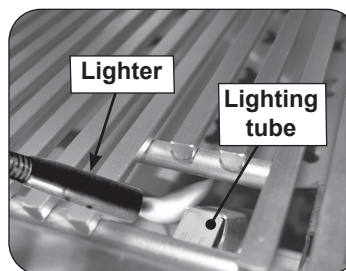
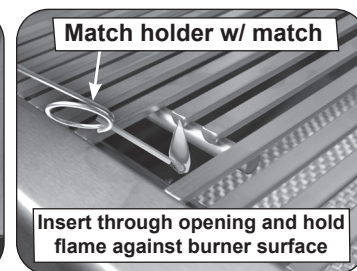

Fig. 35-2 Manual lighting via lighting tube
Fig. 35-3 Manual lighting via match holder
2. Insert either a burning long-barrel butane lighter or a burning long-stem match through the cooking grid opening to the top of the lighting tube (see Fig. 35-2). For backburners or infrared burners, hold the flame against the surface of the backburner/infrared burner. Grills equipped with an infrared burner include a wire extension match holder (attached to drip tray) to assist with manual lighting (see Fig. 35-3).
4. If the burner does not light within five (5) seconds of turning the control knob, **immediately depress the knob and turn the valve to OFF**. **WAIT FIVE (5) MINUTES** before repeating steps 2 through 4 of the **MANUAL LIGHTING** instructions.